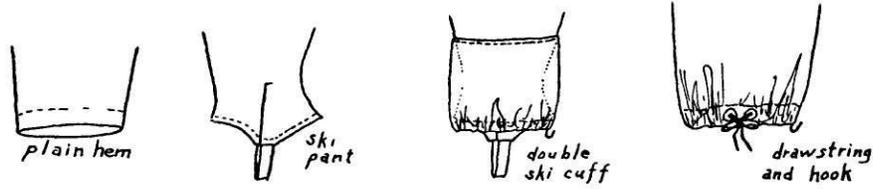

Fig. 3 Pants Cuff Treatments
15. Sew 9" lengths of  $\frac{3}{4}$ " web, preferably nylon, into the corners for peg loops. See Fig. 3. Hand sew with heavy nylon thread or
The cuffs of pants present several problems and several styles are usually necessary to satisfy all conditions. A simple hem one inch wide will suffice for most general use. For skiing the lower leg is tapered to a snug fit around the ankle and socks and then flared out a little. A slit is made up the inseam so the foot can go through the narrow part. If this slit has to extend up past the boot top it should be backed by a fabric gusset to keep the snow out. Be careful not to have any hard or bulky seams in the area of the ankle bone as they become very uncomfortable after a few hours of skiing. This conventional ski pant bottom will not keep snow out of the boot top and this can mean cold wet socks and feet during extended trips. Separate anklets to keep snow out of boots will be described later, but the same idea can be sewn right into the pants—a double cuff, one going inside the boots and a second larger cuff sewn to the pants a couple of inches above the boot top with an elastic bottom that comes down well over the boot top. A large hook-eye hook can be sewn to the front edge to hook under the ski boot lace to keep the cuff down. This is a better method than a strap under the foot which soon wears out. (See Fig. 3, Plate IX.)